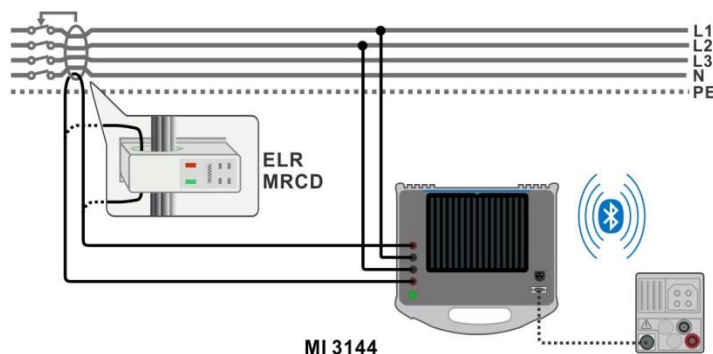

Figure 7.112: ELR Current Injection Test / Combination Time Test connection
- ▶ Connect MI 3152(H) instrument with MI 3144 Euro Z 800 V instrument via serial RS232 or pair them using Bluetooth communication. See **4.6.5.1 Selection and configuration of measuring adapters**.
- ▶ Check Bluetooth communication active sign if MI 3144 Euro Z 800 V instrument is connected to MI 3152(H) instrument via Bluetooth communication.
- ▶ Connect test leads to the object under test. See **Figure 7.112**.
See **Figure 7.112**.
- › Connect MI 3152(H) instrument with MI 3144 Euro Z 800 V instrument via serial RS232 or pair them using Bluetooth communication. See chapter **4.6.5.1 Selection and configuration of measuring adapters**.
- › Check Bluetooth communication active sign if MI 3144 Euro Z 800 V instrument is connected to MI 3152(H) instrument via Bluetooth communication.
- › Connect test leads to the object under test. See **Figure 7.112**. Refer to **MI 3144 Euro Z 800 V Instruction manual** for detailed information.